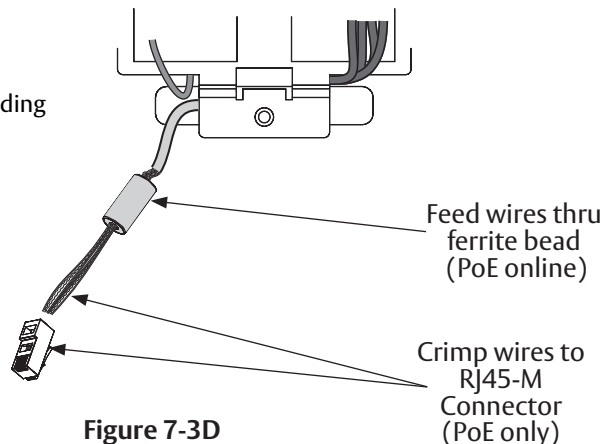

Figure 7-3D
1. Strip Ethernet cable jacket (3) inches.
2. Separate (untwist) and straighten (8) Ethernet wires before carefully feeding through ferrite bead (Figure 7-3D).